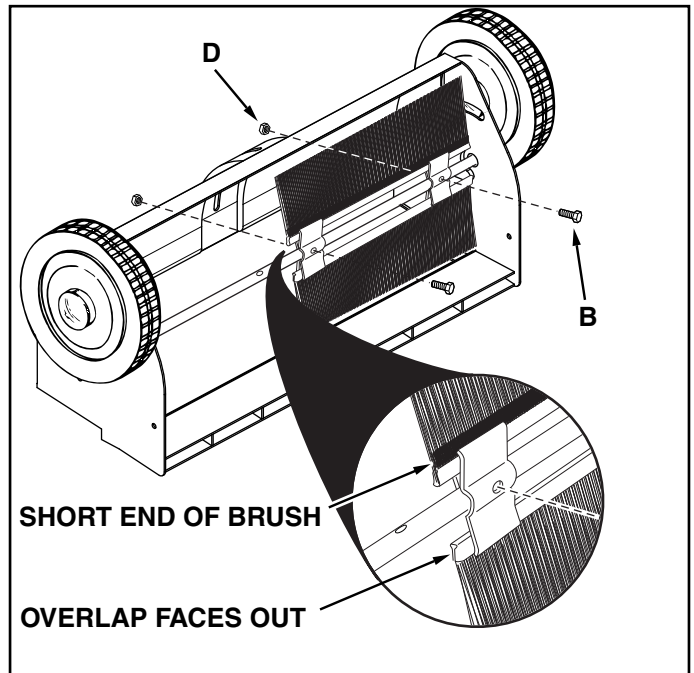

FIGURE 1
1. Turn the sweeper upside down. Place a brush assembly (7) on the brush shaft, with the short ends of the brushes at the center of the sweeper and the overlap bristles of the top brush facing out. Install two 1/4" x 1" hex bolts (B) and 1/4" nylock nuts (D). See figure 1.